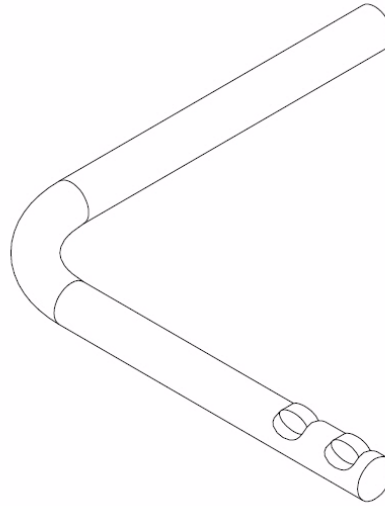

Figure 9: Elevation handle
**Elevation handle** The *elevation handle*, shown in Figure 9, is used to adjust the elevation of the antenna after assembly and installation.